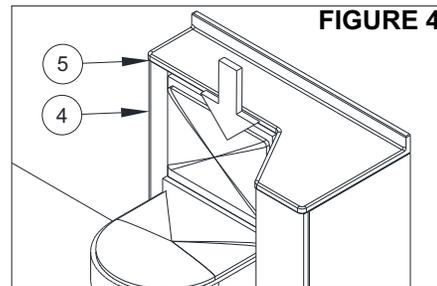

FIGURE 4
- G. Lower Countertop [5] onto Cabinet [4] and attach as required. **Figure 4.**